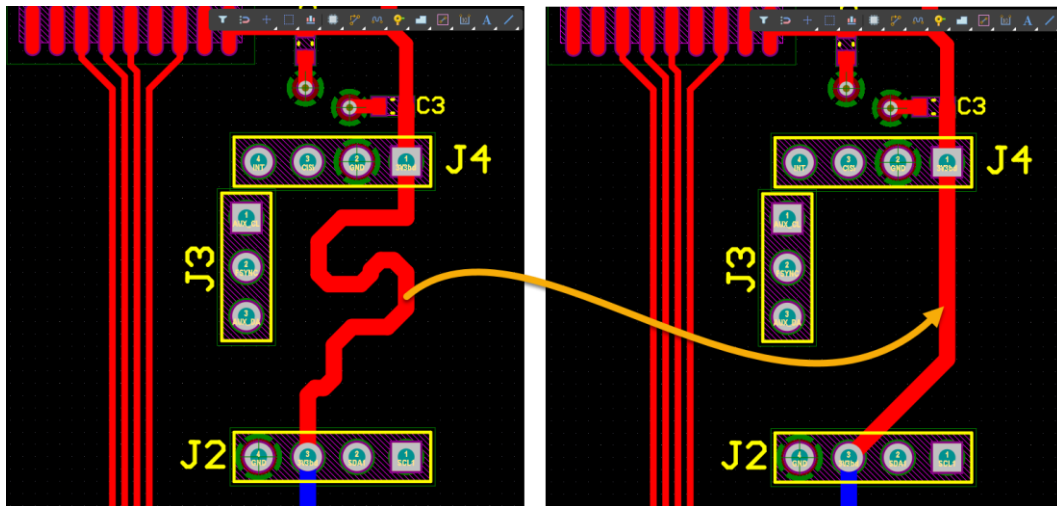

Figure 13. Gloss Tracks, before (left) and after (right)
- Run the *Track Glossing* command by going to **Route » Gloss Selected** or **CTRL+ALT+G**. See Figure 13 as an example.